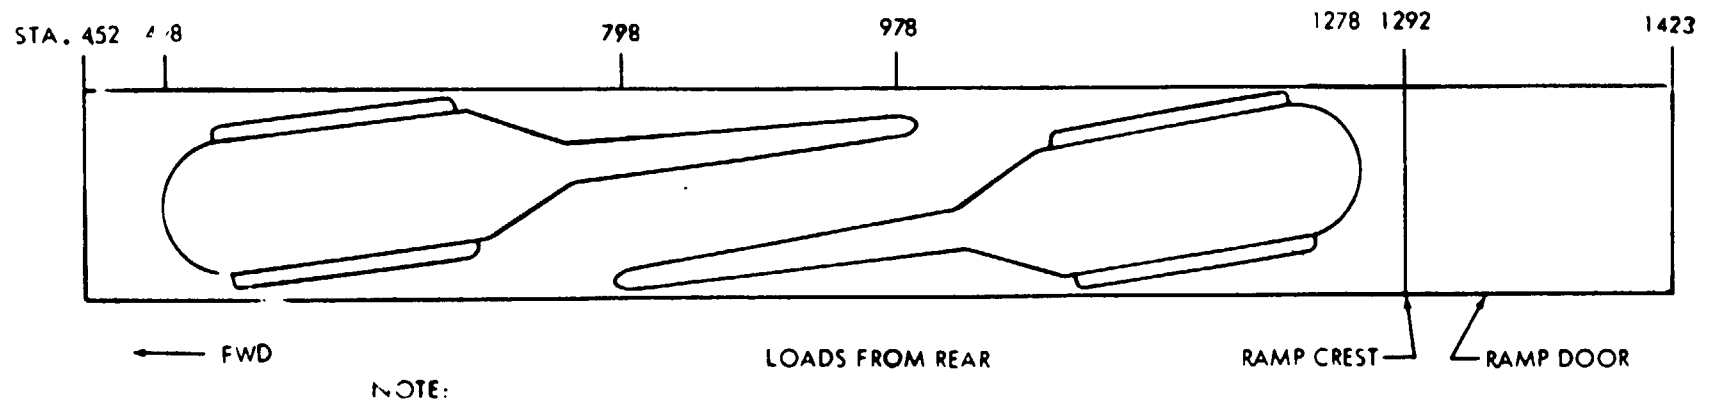

Figure 6-1. C-141 Cargo Aircraft Loading Diagram.
a. Figure 6-1 is the preferred load plan for two helicopters with tailboom installed, however, if no K-loader is available both helicopters can be loaded nose first. This results in a very tight load.